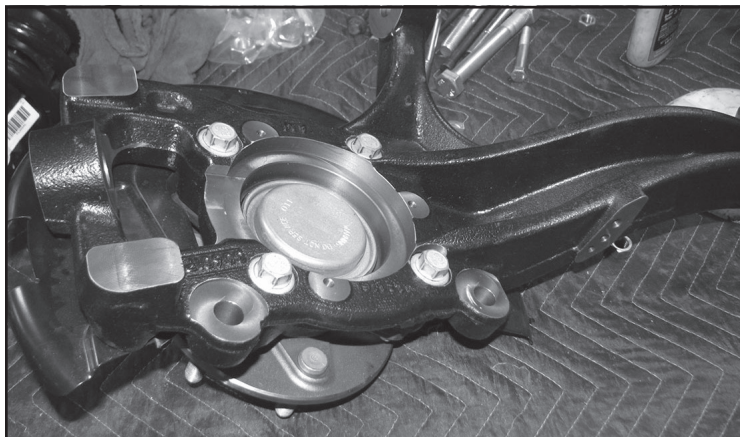

FIGURE 8 - STEP 16
16. Locate the factory spindles and remove the hub assemblies and dust shields. Save hardware. Reinstall the hub assembly onto the new Fabtech spindles using the factory bolts. Torque to 160 ft-lbs. **SEE FIGURE 8**